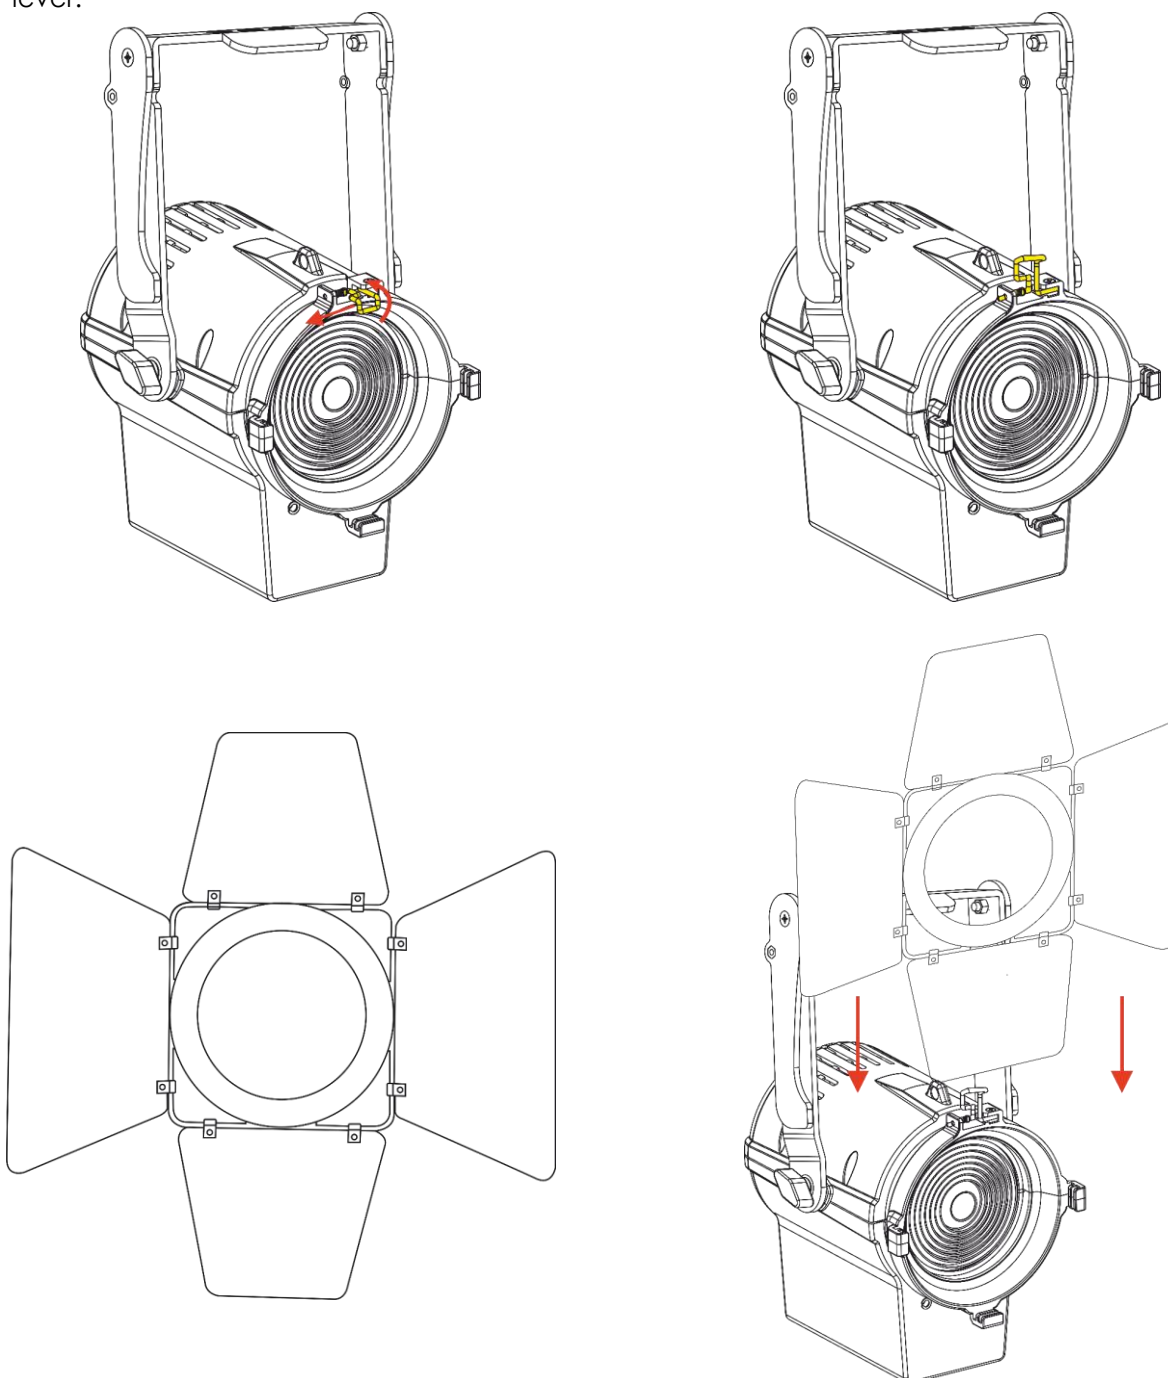

Fig. 03
- 04) Link the units as shown in (Fig. 03), Connect a DMX signal cable from the first unit's DMX "out" socket to the second unit's "in" socket. Repeat this process to link the second and third units.